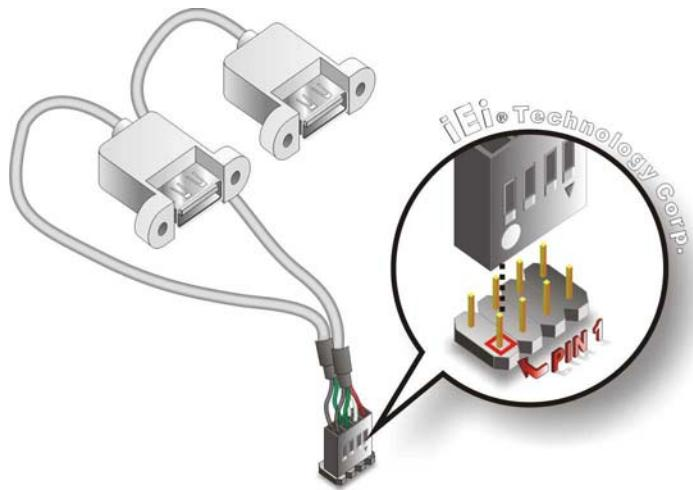

Figure 5-28: Dual USB Cable Connection
Step 3: Insert the cable connectors. Once the cable connectors are properly aligned with the USB pins on the NOVA-9452, connect the cable connectors to the onboard connectors. See **Figure 5-28**.